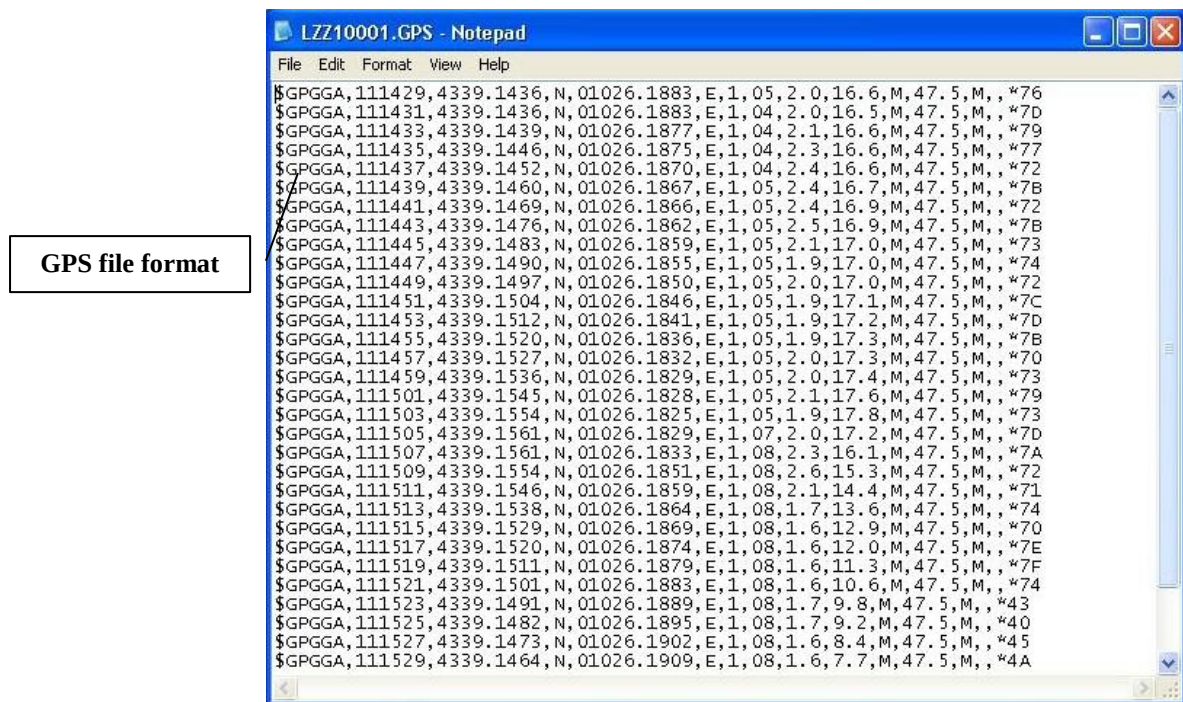

Fig. 6.7 – Example of a GPS file
Step 8 The GPS data in NMEA\$GGA format are saved as an ASCII file in the same directory as the radar data; the GPS files have the same numbering as the radar files, but have a *.GPS extension (see the example shown in Fig. 6.7). During the radar data acquisition phase, you can check the GPS acquisition data using white Markers placed at the bottom of the radar map.